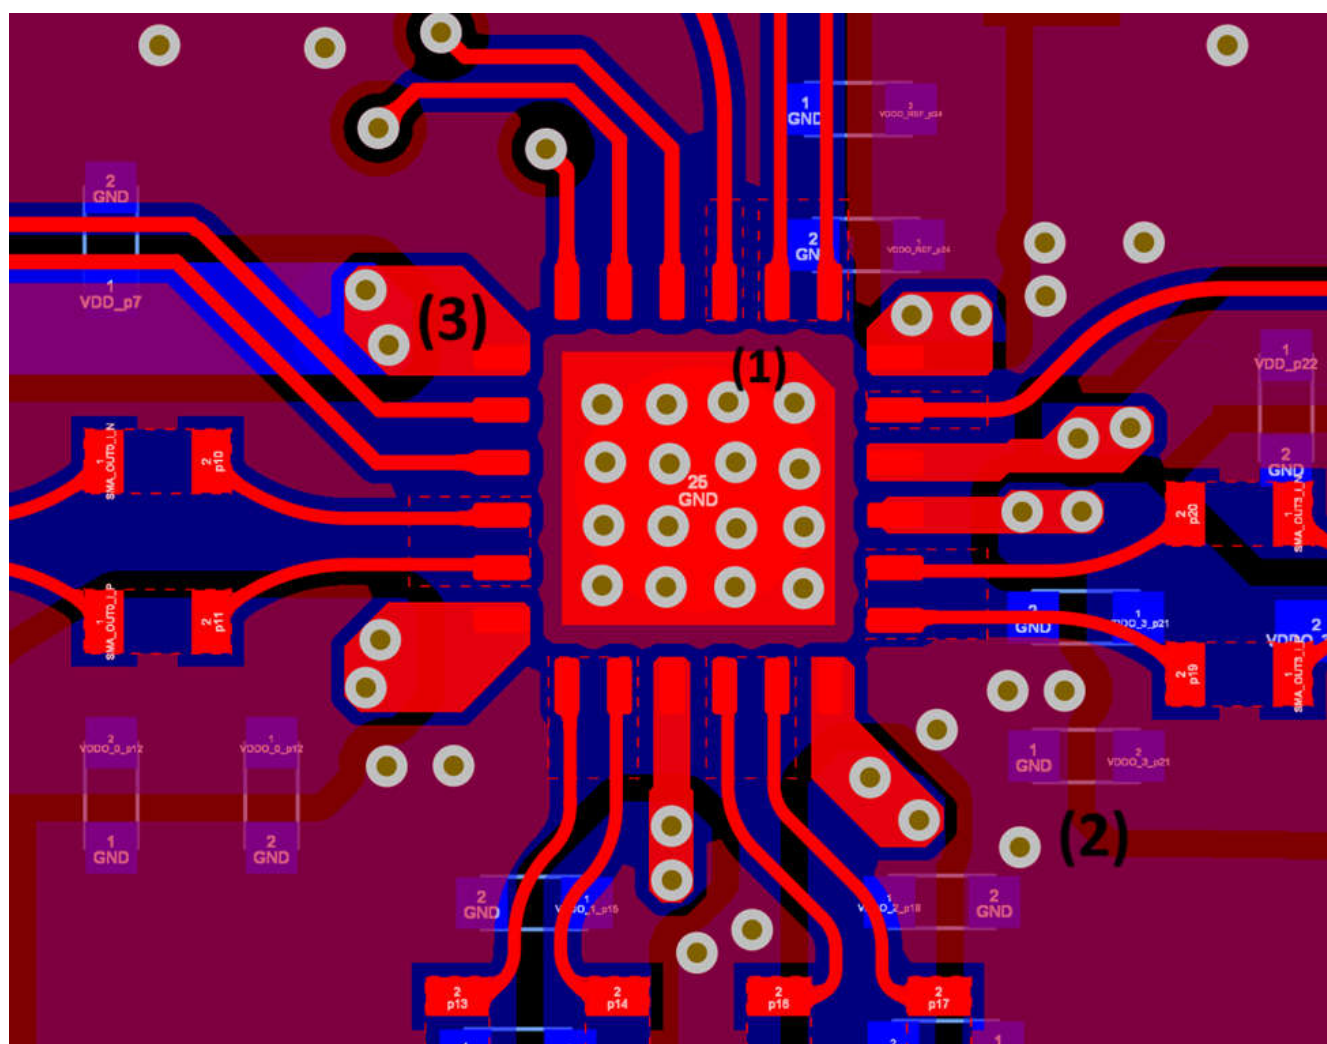

Figure 8-6. LMK3H2104 Top and Bottom Layers Example Layout
- For LMK3H2104, use at least five vias to connect the thermal pad to a solid GND plane. For LMK3H2108, use at least nine vias to connect the thermal pad to a solid GND plane. Full-through vias are preferred. Refer to (1) in Figure 8-6 for an example.
- Place decoupling capacitors with small capacitance values very close to the supply pins. Try to place the capacitors very close on the same layer or directly on the backside layer. Larger values can be placed more far away. Refer to (2) in Figure 8-6 for an example.
- If power is routed across multiple layers, use multiple vias to connect the power traces across layers. Refer to (3) in Figure 8-6 for an example.